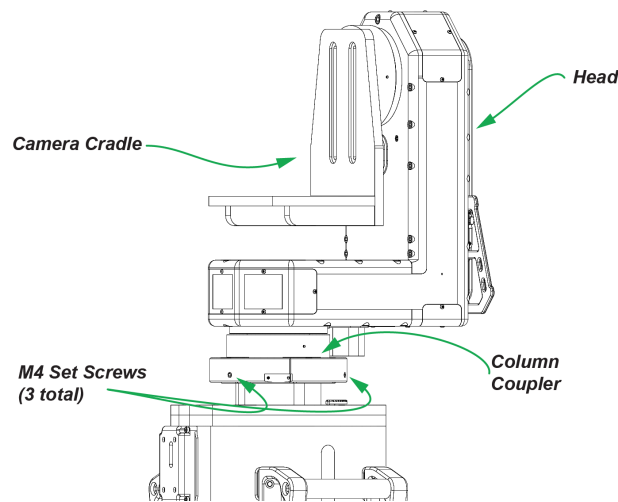

Figure 31 - Robotic Head
2. While another person holds the head steady, use the 4 mm hexagonal wrench to tighten the three M8 set screws along the edge of the head/column coupler, until the head is secure, as shown in **Figure 31**.
2. Use the grease pencil mark from **“Remove the Payload”** on **page 3** as a position marker for the payload and then add the payload, as shown in **Figure 31**.